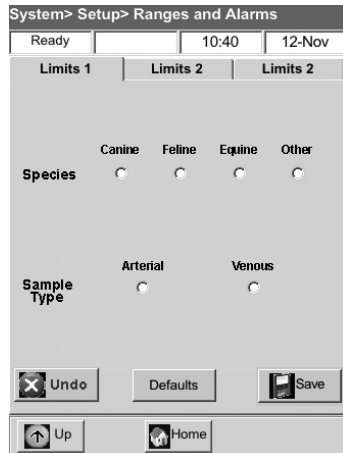

Figure H-14: System> Setup> Ranges and Alarms> Limits 1 screen
4. On the Limits 1 tab (Figure H-14), tap the name of the range you want to view.